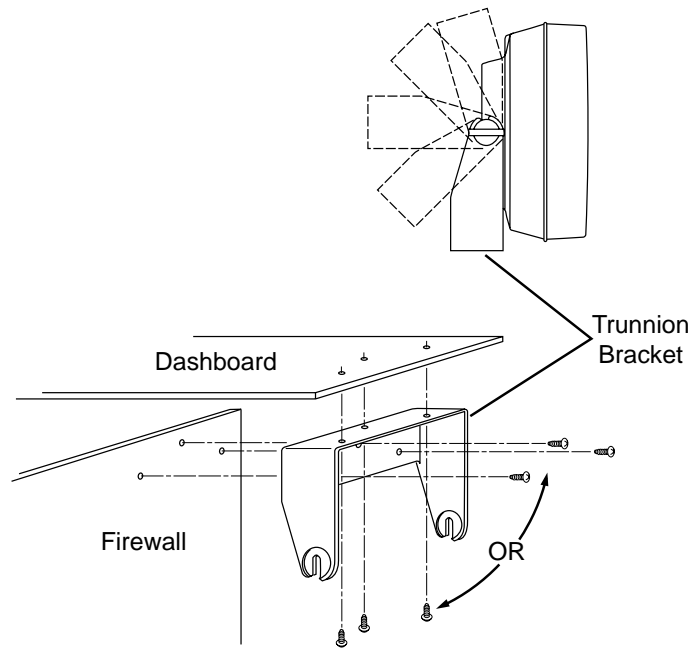

Figure 18 Mounting Speaker under Dashboard
5. Mount the trunnion bracket with the screws supplied (See Figure 18).